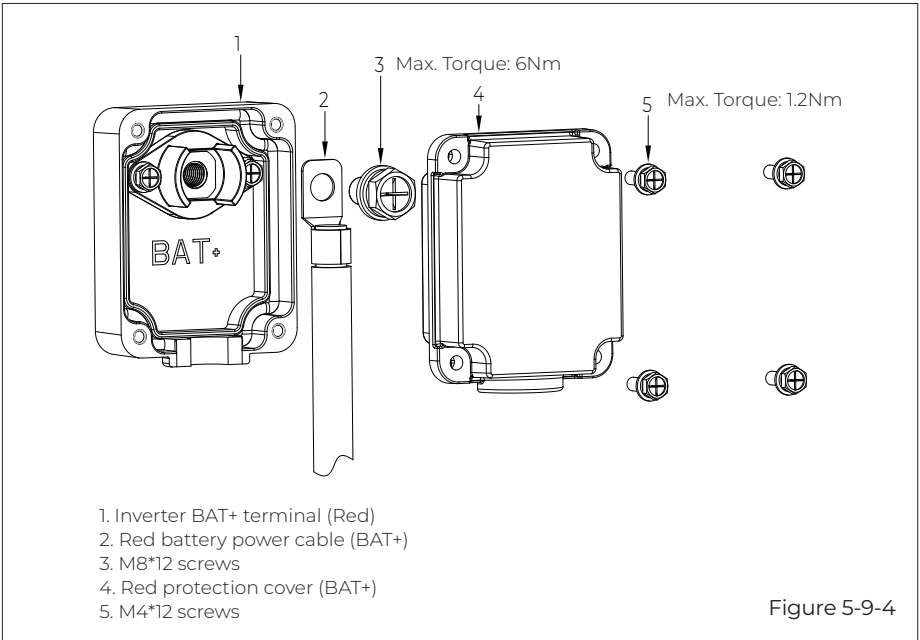

Figure 5-9-4
- Repeat to connect the red battery power cable. See Figure 5-9-4.